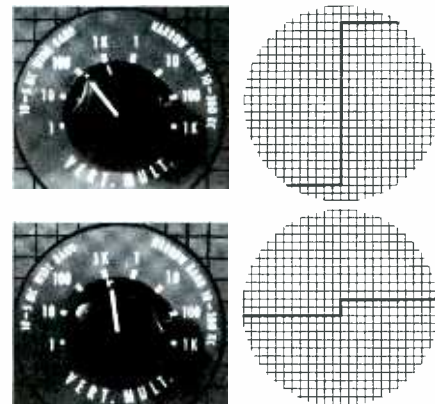

Fig. 5. Effect on waveform when attenuator is switched to higher position.
3. The step attenuator (Fig. 5) is a decade, or decimal, device. In other words, the pattern height is increased or decreased by a factor of 10 when you switch to an adjacent position. This makes it simple to keep track of the vertical sensitivity for whatever pattern height was chosen for calibration.